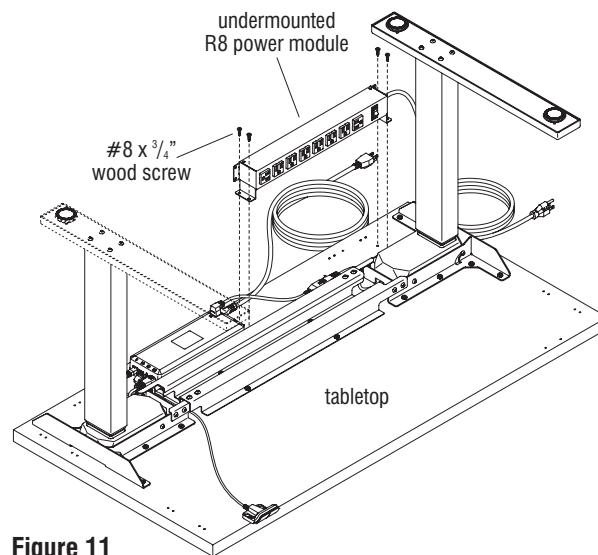

Figure 11
1. Position the undermounted R8 power module to the underside of the tabletop at the desired pre-drilled mounting location. Assure that the power cord can be routed easily to a power source (Figure 11 & Detail V).
2. Align the pre-drilled mounting holes of the R8 power module with the drilled mounting holes underneath the tabletop. Secure the R8 power module to the tabletop using four #8 x $\frac{3}{4}$ " wood screws. Take care to not over tighten (Figure 11 & Detail V).